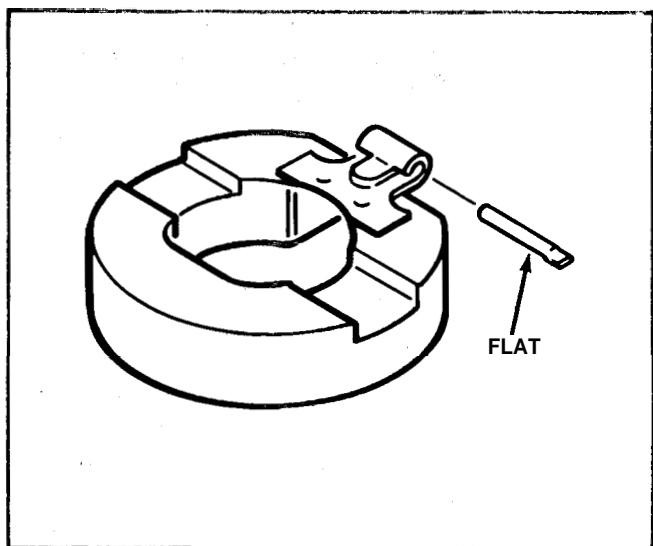

Figure 19
3. Hook the inlet needle into the float and secure the float and needle in place with the hinge pin. See Figure 19.